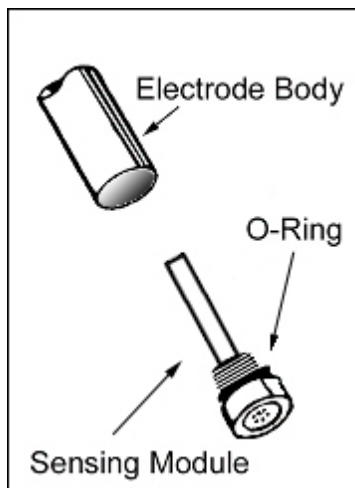

Figure 4: replacing the Sensing Module
1. The AC008 sensing element comes premounted on the end of the electrode with a protective bottle, but can be removed by unscrewing the electrode end. **Caution: Do not touch the PVC membrane with your fingers or over tighten the sensing element** (see Figure 4)